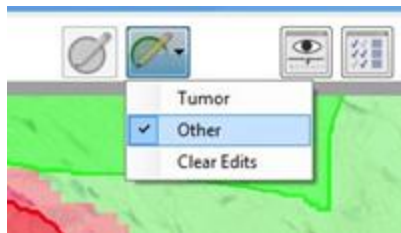

FIGURE 10.5. Editing Tissue Segmentation Masks.
2. On the drop-down list, select the tissue segmentation mask that you are editing. (See Figure 10.5.)